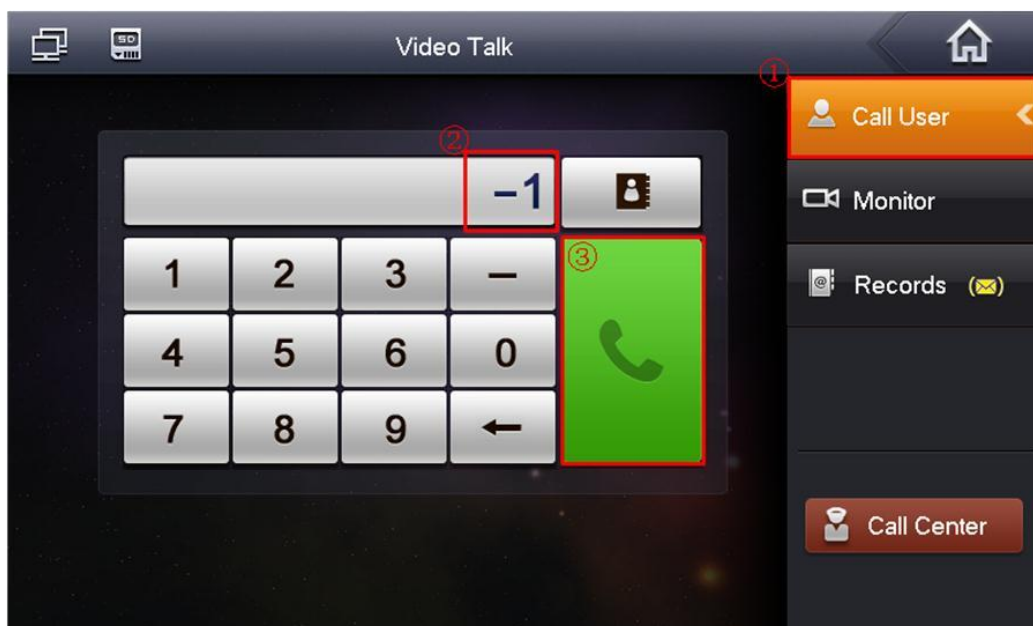

Figure 2-19
- For the VTH, from “Video Talk->Call User”, input “-1” to call the VTH extension number. See Figure 2-19.